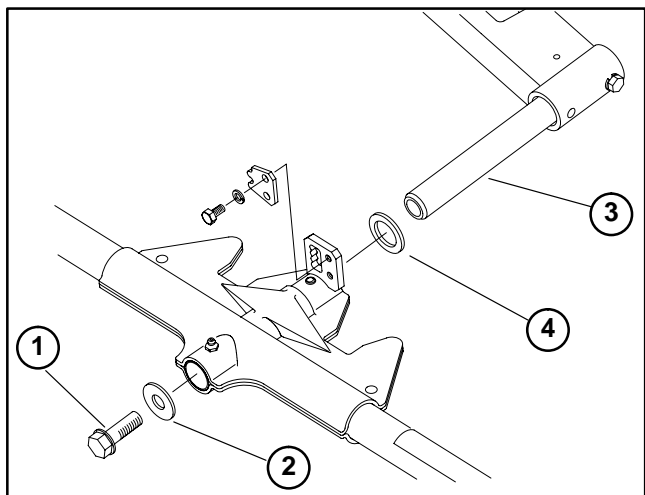

Figure 17
7. Remove flange head cap screw and flat washer from the pivot rod (Fig. 17).
1. Place thrust washer on pivot rod (front cutting units only), and slide carrier frame onto pivot rod (Fig. 17).
2. Secure flat washer and flange head cap screw onto pivot rod (Fig. 17).